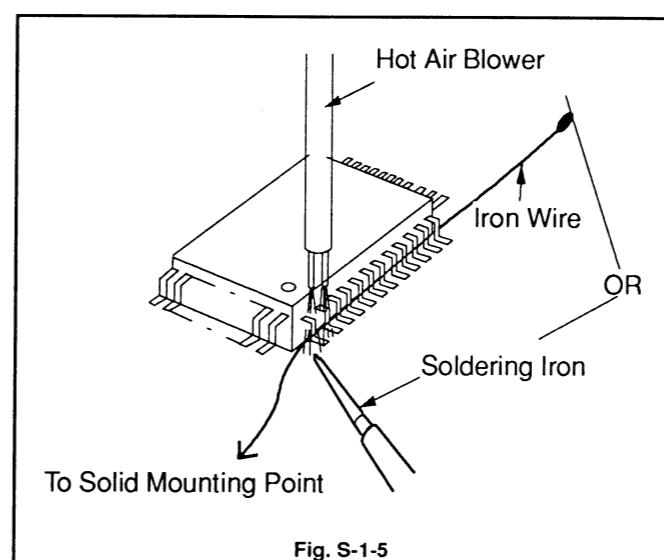

Fig. S-1-5
- Affix the wire to a workbench or solid mounting point, as shown in Fig. S-1-5.
- While heating the pins using a fine tip soldering iron or hot air blower, pull up the wire as the solder melts so as to lift the IC leads from the PCB contact pads as shown in Fig. S-1-5.